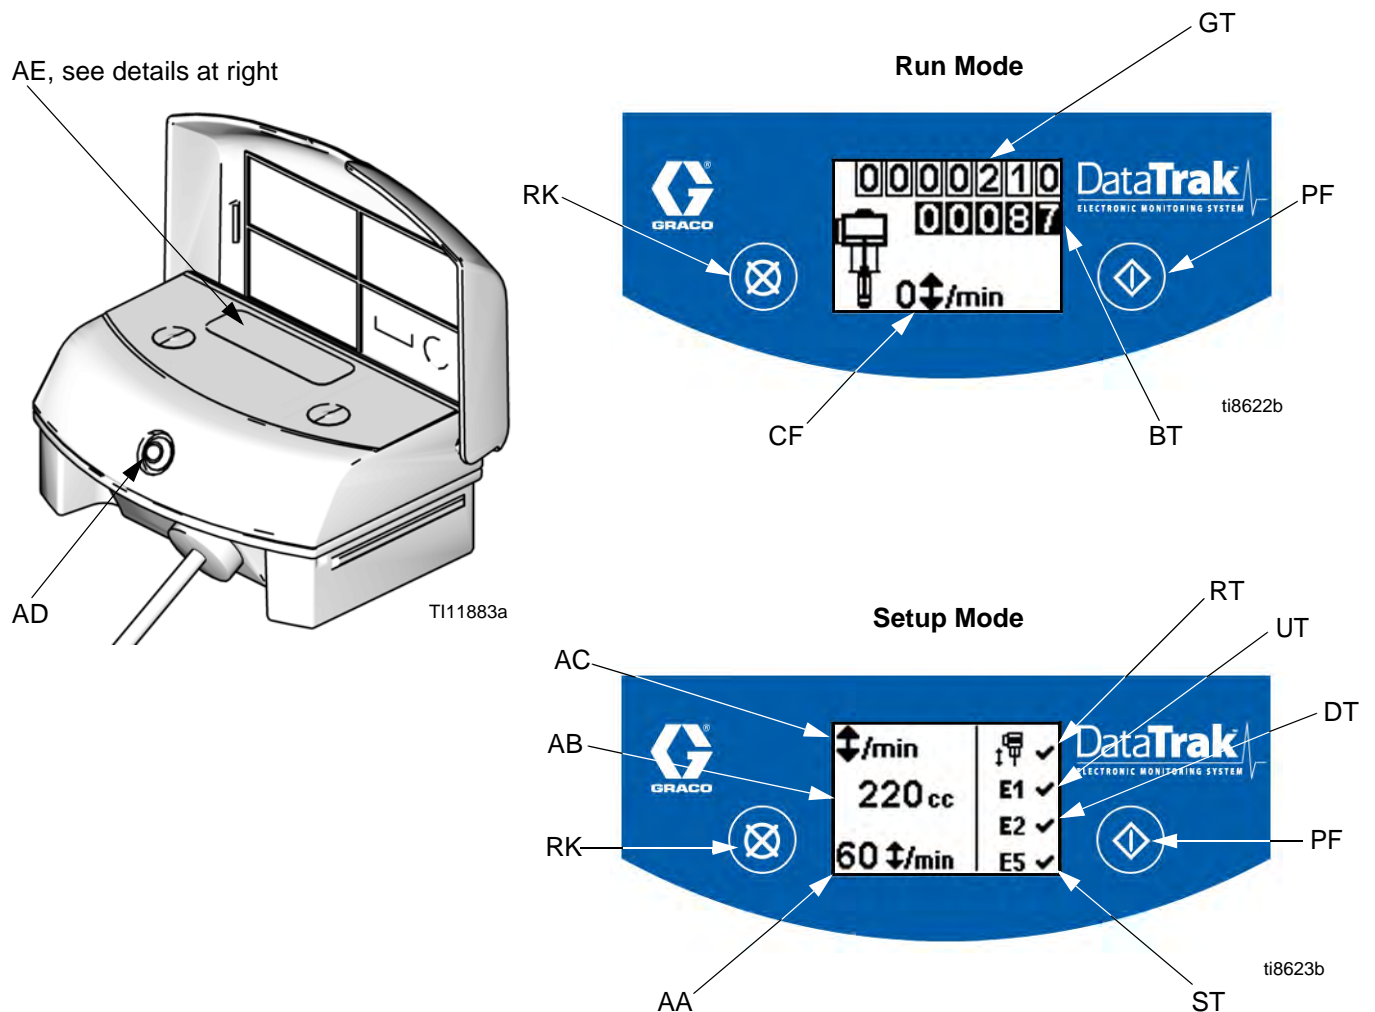

FIG. 7. DataTrak Controls and Indicators
Key for FIG. 7
1. See FIG. 7. Press and hold  for 5 seconds until Setup menu appears.
NOTE: When runaway, E1, E2, and E5 error options are enabled, a ✓ will appear on the setup screen. See FIG. 7.
1. See FIG. 7. If pump runaway occurs, the runaway solenoid will actuate, stopping the pump. The LED (AD) will flash and the display (AE) will indicate a runaway condition (see Table 1). The display will cycle through six instruction screens.
2. Runaway Screens 1 and 2: To reset the runaway solenoid, close the master air valve (E). Wait for air to completely bleed off the air motor.
3. Runaway Screens 3 and 4: After the air is bled off, push the solenoid release button (J) down to reset the air valve. The button will pop back up when the air valve is repressurized.
5. Open master air valve (E) to restart pump.
NOTE: To disable runaway monitoring, go to setup mode and set runaway value to 0 (zero) or toggle (RT) off  (see FIG. 7).
1. See FIG. 7. To enter Prime/Flush mode, press any key to wake up the display, then press . The Prime/Flush symbol will appear in the display and the LED will flash
2. While in Prime/Flush mode, runaway protection is disabled and the batch totalizer (BT) will not count. The grand totalizer (GT) continues to count.
See FIG. 7. The last digit of the batch totalizer (BT) represents tenths of gallons or liters. To reset the totalizer, press any key to wake up the display, then press and hold  for 3 seconds.
See FIG. 7. The display (AE) will turn off after 1 minute of inactivity in Run mode or 3 minutes in Setup mode. Press any key to wake up the display.
DataTrak can diagnose several problems with the pump. When the monitor detects a problem, the LED (AD, FIG. 7) will flash and a diagnostic code will appear on the display. See Table 1.